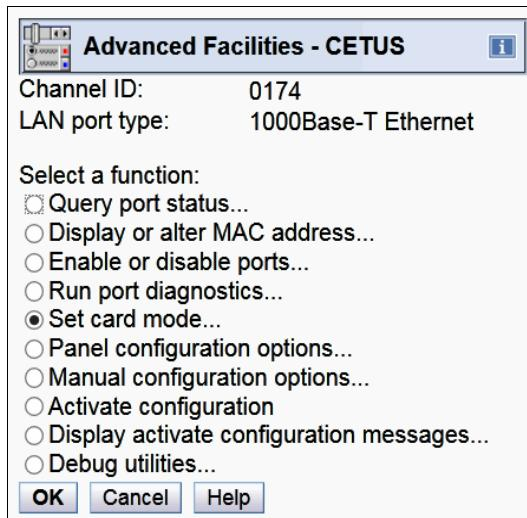

Figure 6-21 Selecting Card Mode definition
3. Select **Set card mode** and click **OK** (Figure 6-21).